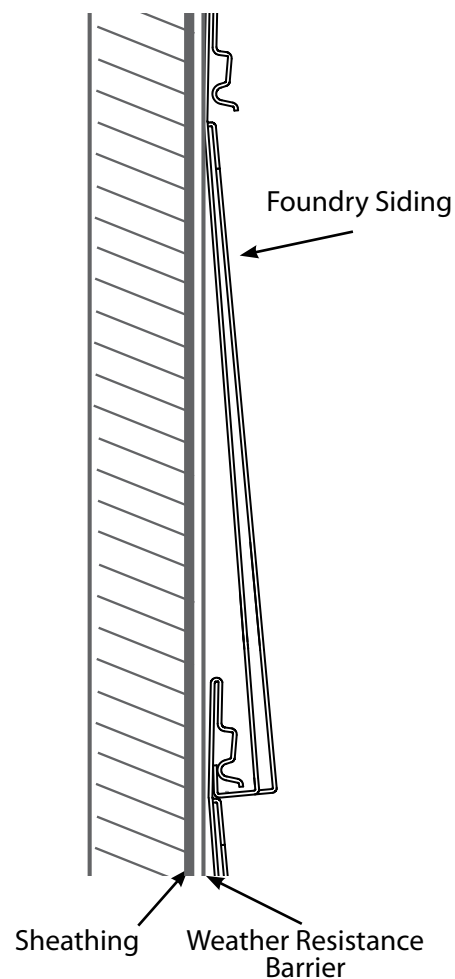

FIGURE 4
- A weather-resistant barrier should be applied to the house prior to installing Foundry siding (**FIG 4**). Consult your local building code for requirements in your geographic area.